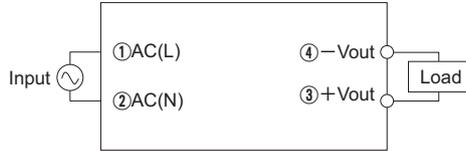

Fig.1.1 Connection for standard use
■ To use UMPS series, connection shown in Fig.1.1.